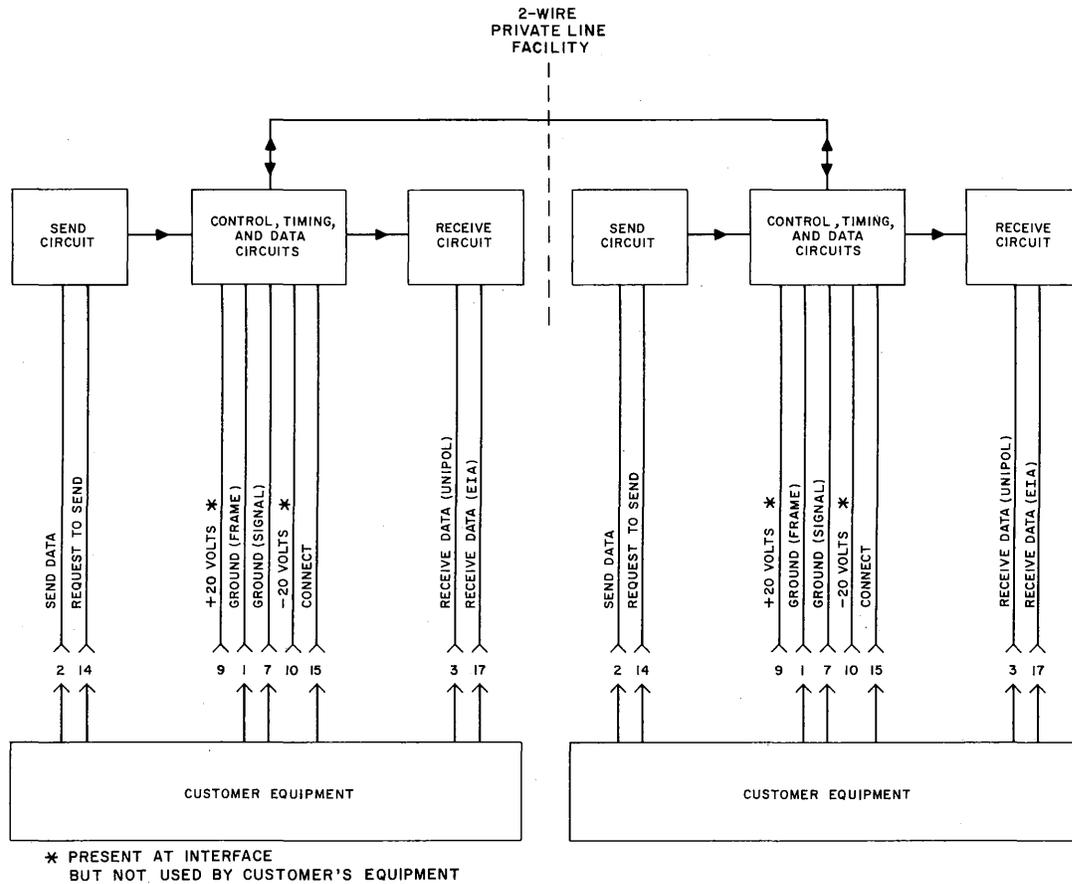

Fig. 3 - Block Diagram
3.03 Fig. 3 shows a simplified block diagram of the data system.